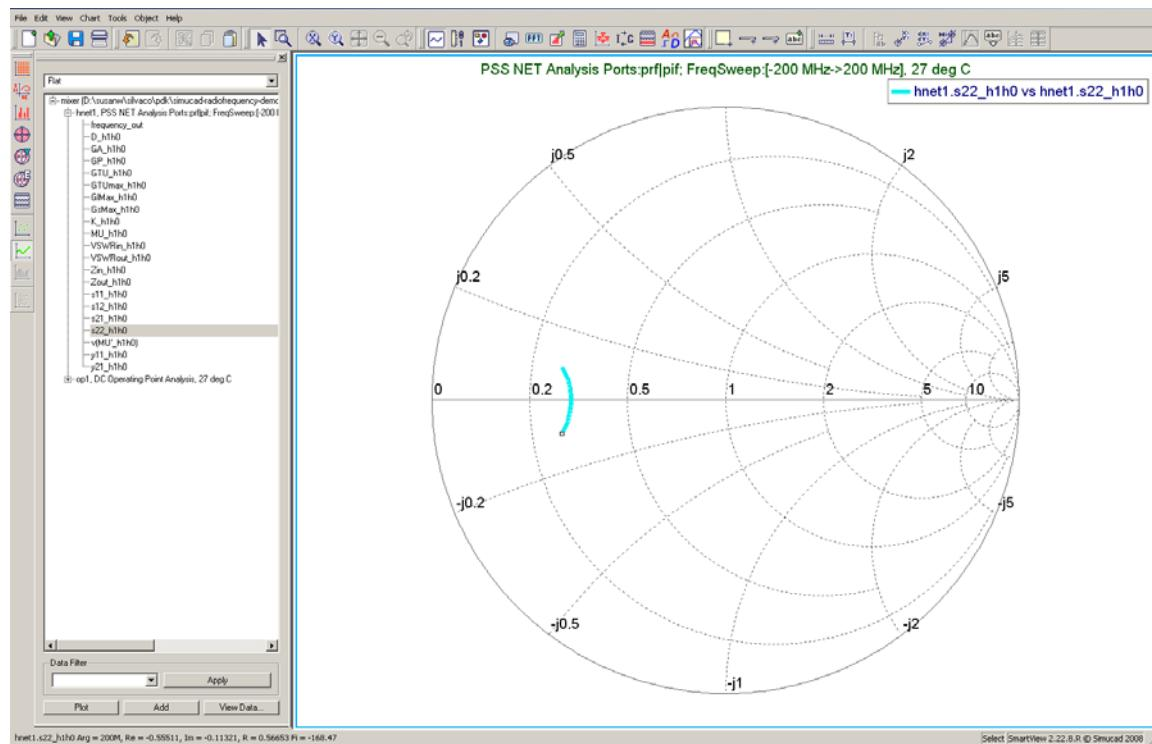

Figure 10: S22 Smith Chart Plot
2.6.2: Open Plot hnet1, then select vector “s22_h1h0”, and click **Plot**. Figure 10 shows s22 plot on Smith Chart.